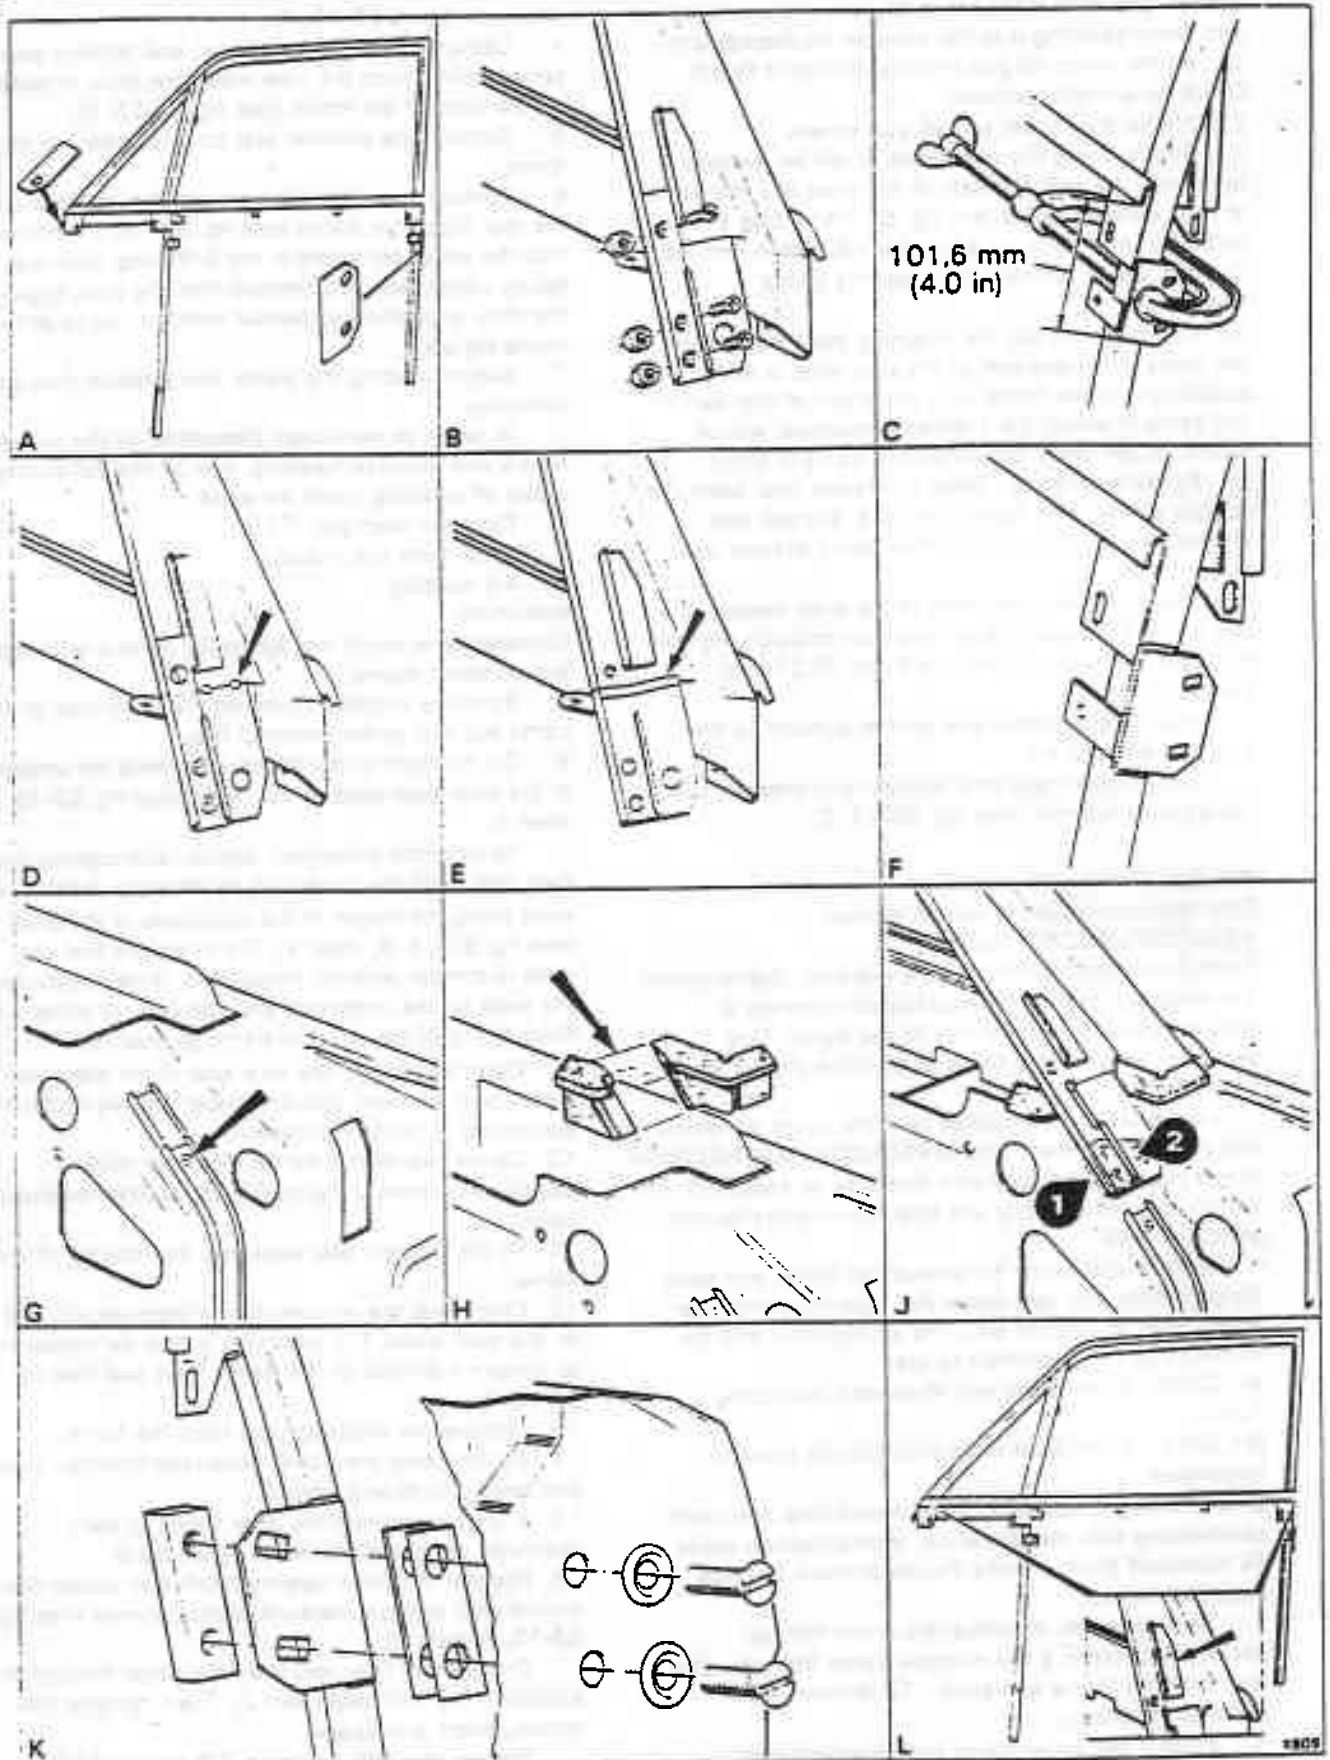

Fig. S3-14 Window frame modifications
3. Pick out the correct plates, positioning them as shown in figure S3-14, A.
4. Using the original stiffening plate and suitable nuts and bolts, temporarily secure the new extension plate in position on the front of the frame (see fig. S3-14, B).
6. Position and clamp the new stiffening plate onto the rear leg of the frame (see fig. S3-14, C). Ensure that the elongated holes in the stiffening plate are facing uppermost. Also ensure that the back edge of the plate is positioned parallel with the radius of the frame leg edge.
9. On the front of the frame, tack weld the extension plate to the frame (see fig. S3-14, D).
Remove the stiffening plate and run weld across the extension leg to the window frame joint (see fig. S3-14, E). Try to ensure that the weld is smooth with no projections. If necessary, grind the weld on the underside and top face, to achieve a flush fitting of the window frame to door face.
10. On the rear of the frame, weld the plate in position as shown in figure S3-14, F then remove the clamp.
11. On the front of the door, it will be necessary to remove a section of the door seal channeling to allow the frame to seat correctly. Rivet the remaining channel in position (see fig. S3-14, G).
13. Check that the window frame front leg fits flush on the door panel. If it does not, it may be necessary to remove a portion of the frame front seal (see fig. S3-14, H).
17. Position the front tapping block and spacer then secure with two countersunk socket screws (see fig. S3-14, J - item 1).
Secure with the setscrews, cup washers, and tapping block (see fig. S3-14, K). Torque tighten the setscrews (see Section S20).
23. Before fitting the door seals, it will be necessary to remove the seal retainers at the front and rear waist of each window frame (see fig. S3-14, L). Use a carbide tipped cutter or a suitable flat drill to remove the spot welds securing the retaining plates.